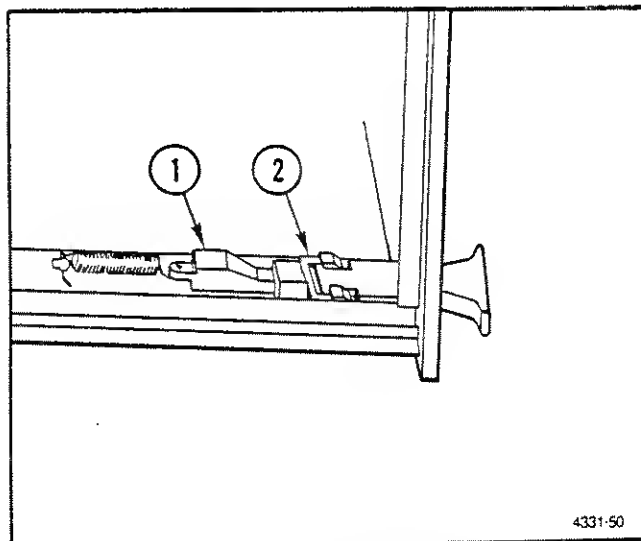

Fig. 7-6. Latch assembly pictorial.
- c. Remove the stand-off hex screws (4).
b. Remove the front cover screws (2).
c. Remove the latch assembly using the following procedure (refer to Fig. 7-6):